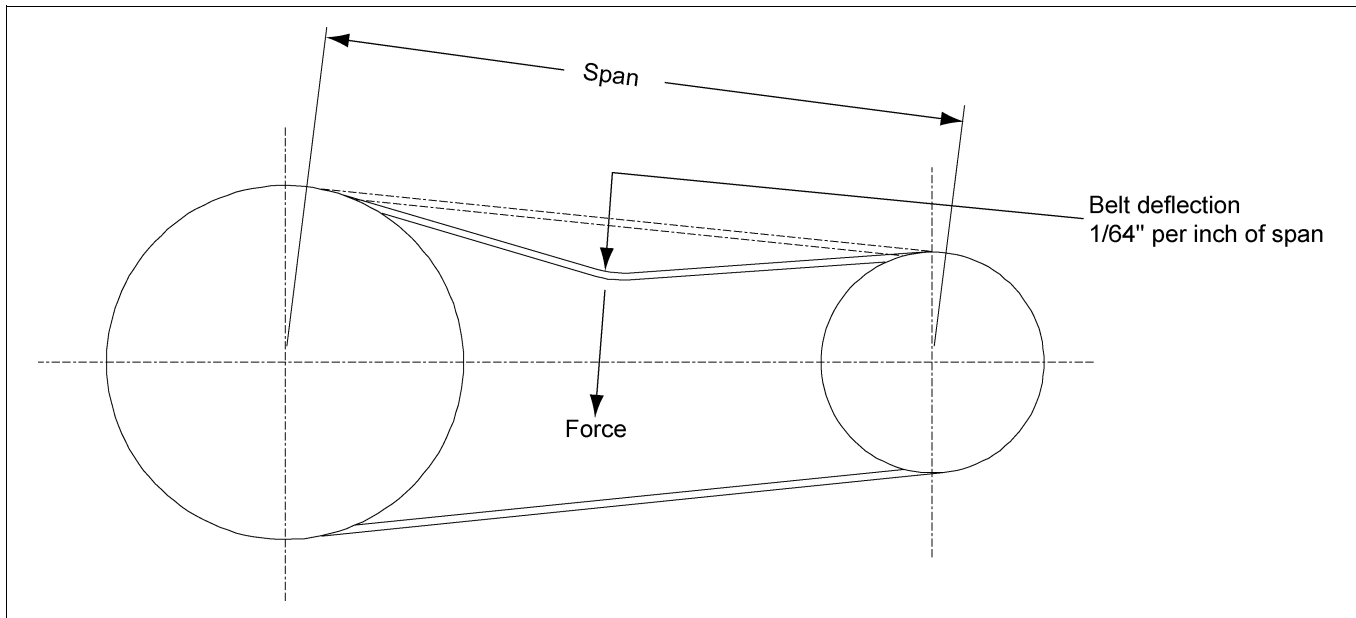

Figure 6R
Adjustment of V-belt tension is achieved by tightening the hex nuts located on the four (4) jack screws of the motor base. Adjust motor base equally at all four (4) jack screws to maintain shaft alignment. Belts are designed to fit loosely upon installation. When the V-belt tension is correct, tighten the top nut on the jack screws to lock the motor base in position. Proper tension is  $1/64$ " of deflection per one inch (1") of sheave centers on one side of belt, centered between sheaves. (See Figure 6R.)